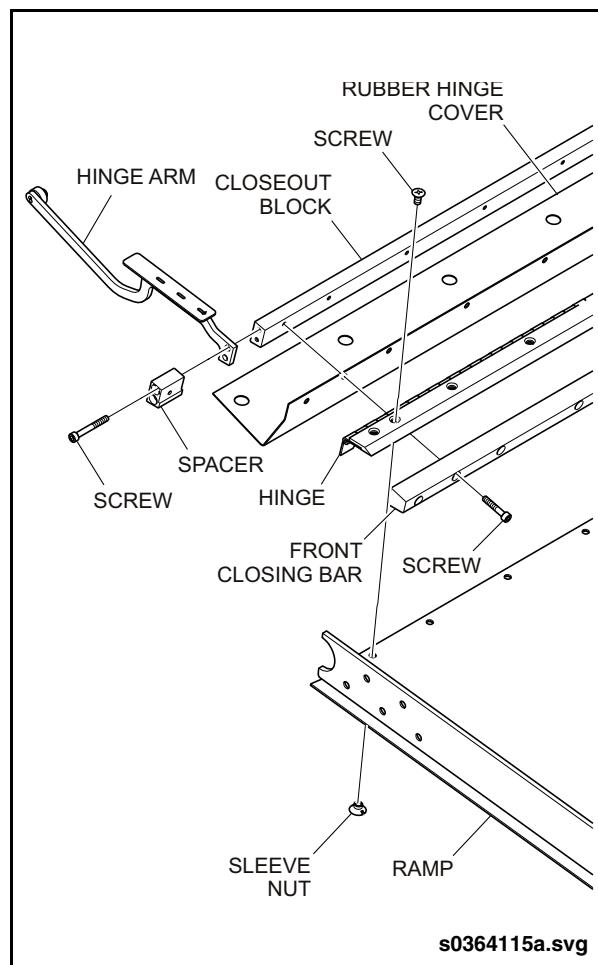

Fig. 20-7: Hinge & Cover Assembly
1. Remove the eleven 10-32 screws that attach the trip deflector plate and hinge assembly to the ramp plate. See "Fig. 20-7: Hinge & Cover Assembly" on page 15.